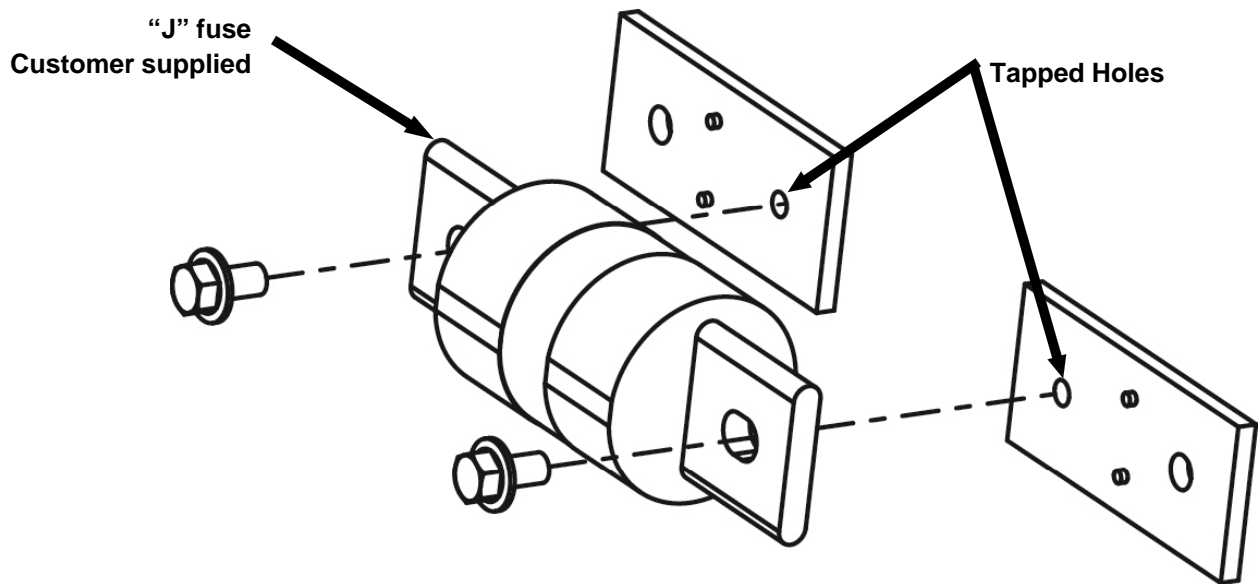

Fig. 1
2. Assemble “J” fuse onto “J” fuse adapters with the two hex head bolts provided as shown in Fig. 1 & 2.